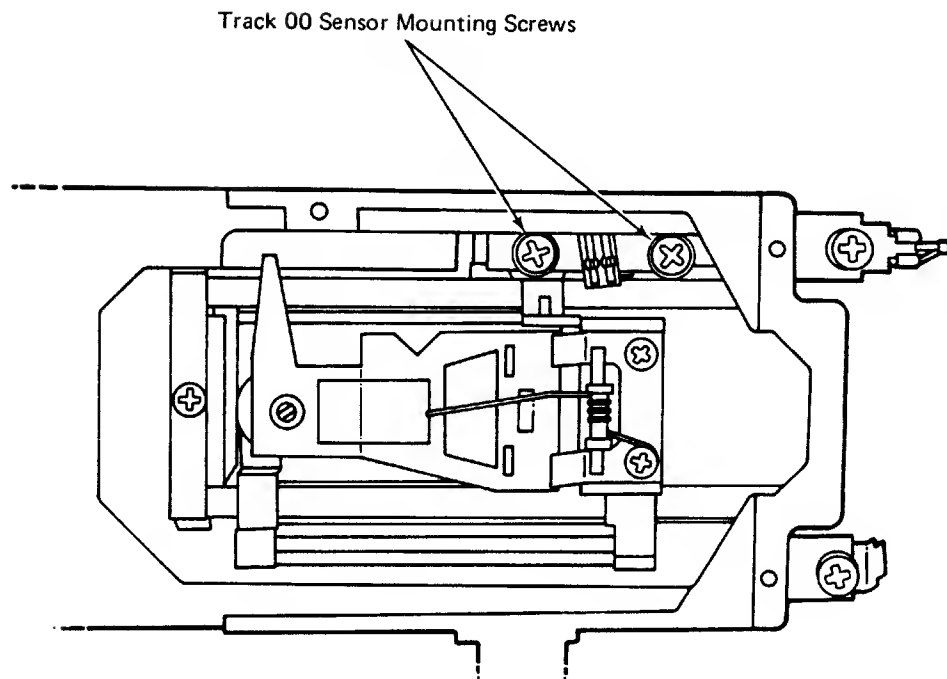

FIGURE 6-18. TRACK 00 ASSEMBLY (MPI)
- 6.4.5.12 Lift the PC board enough to access the track 00 sensor mounting screws at the rear left of the drive. (See Figure 6-18.)